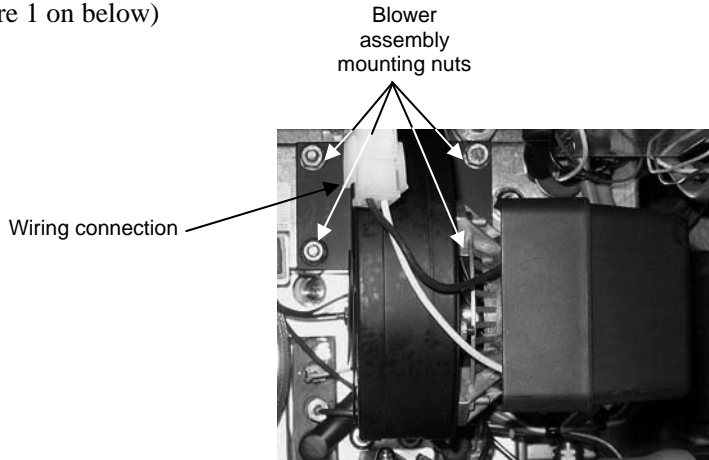

Figure 1
1. Disconnect the blower wiring harness and remove the four blower mounting nuts. (See Figure 1 on below)